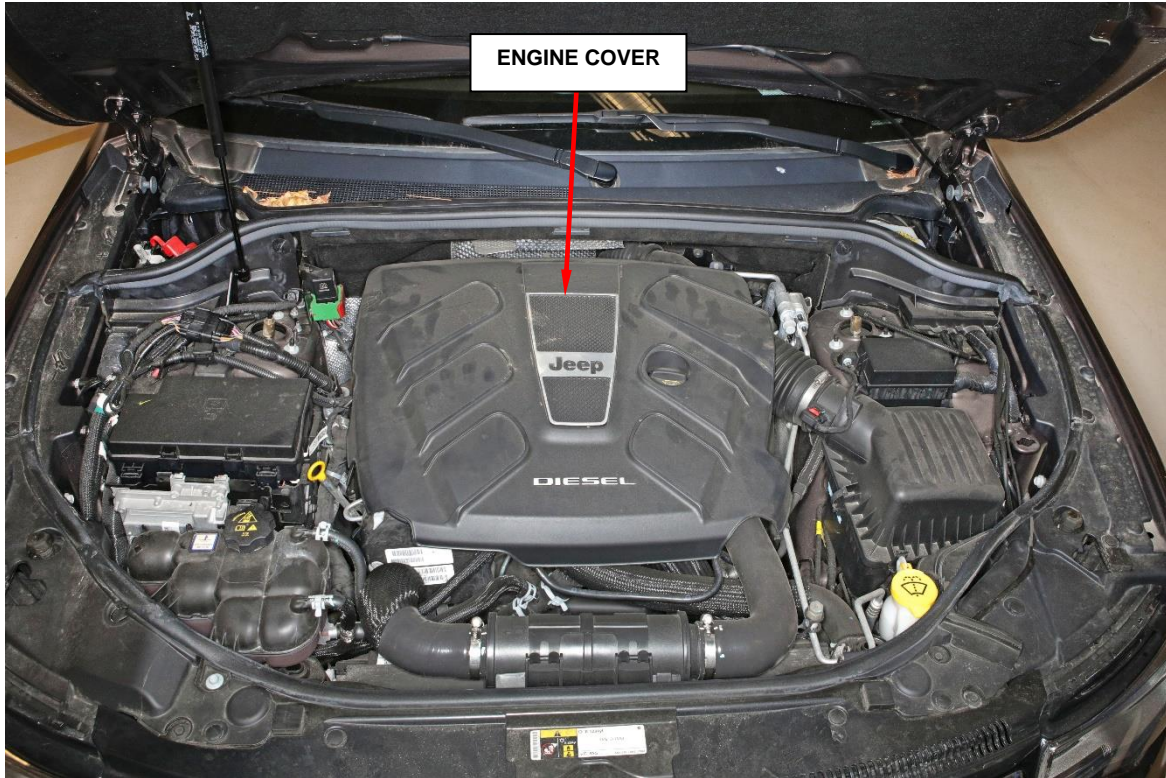

Figure 28 – Engine Cover
8. Remove the engine cover (Figure 28).